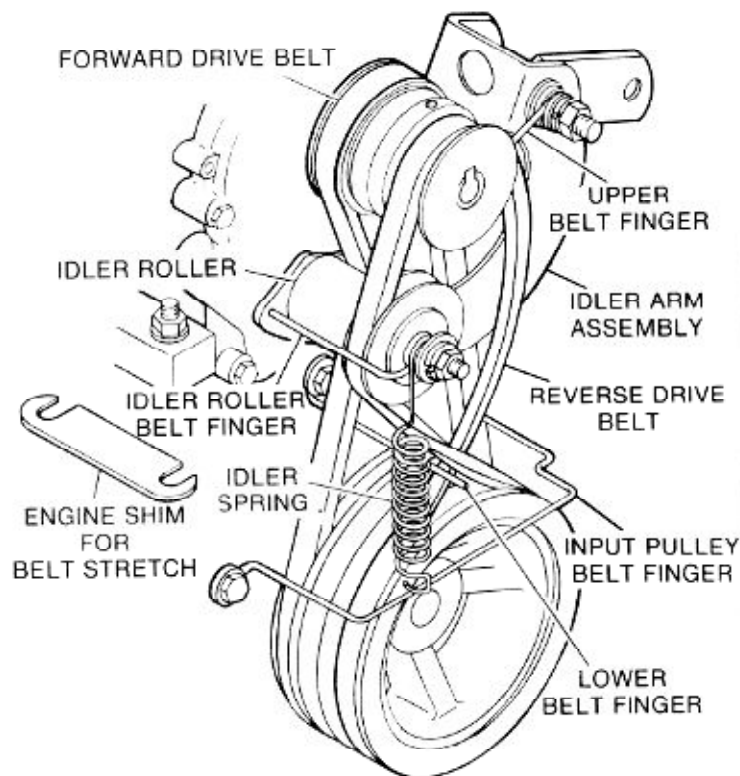
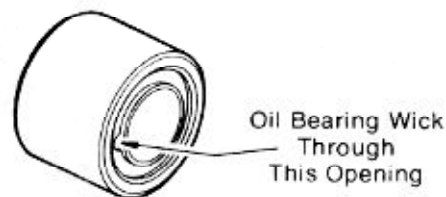

FIG. 16
FIG. 18
2. Unhook the long end of spring from the idler arm assembly, Fig. 16.
3. Remove the input pulley belt finger, Fig. 16.
4. Remove the belt finger from the idler roller, Fig. 16.
5. Remove the reverse drive belt. **Notice** how the reverse belt is twisted around the pulleys, Fig. 16.
6. Remove the forward drive belt from pulleys and replace with new belt, Fig. 16.
5. Remove the reverse drive belt from pulleys and replace with new belt, Fig. 16. **Notice** how the reverse belt is twisted around the pulleys, Fig. 16.
3. **Idler Roller** — Lubricate the idler roller, Fig. 16. Saturate the bearing wick, Fig. 18, with S.A.E. #30 wt. oil once a season for average home use.